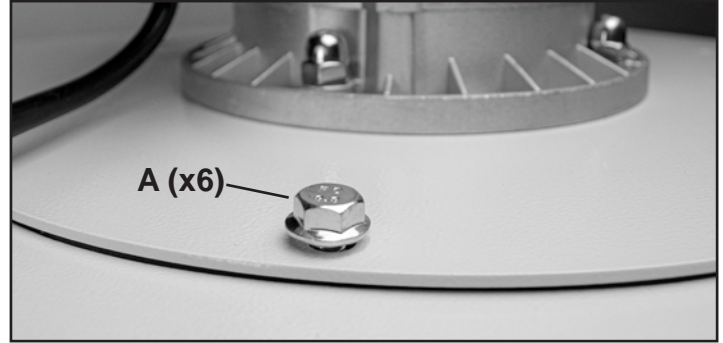

FIG. 13
3. Install six M8X16 Hex Head Bolts to secure the Motor to the Dust Plenum. Fig. 13.